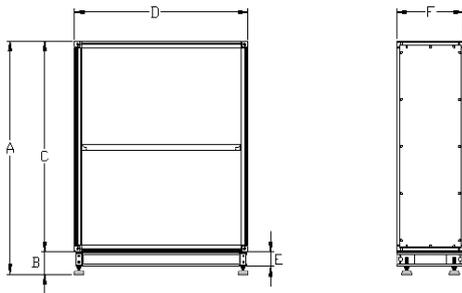

Fig. 81
- Recirculation damper module dimensions and weight can be seen below. (Fig. 81)